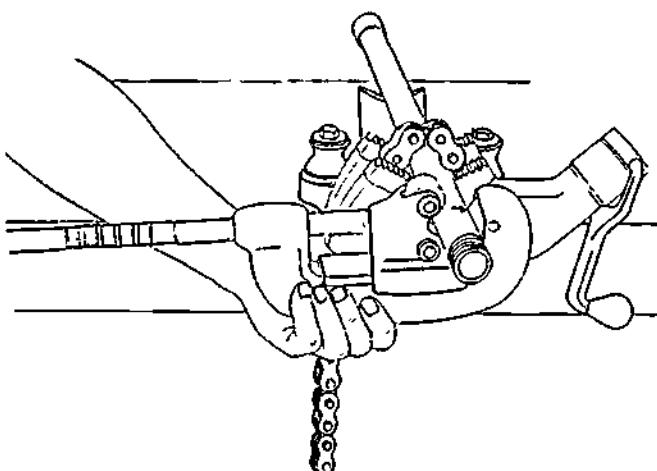

Figure 7-24. Positioning the Pipe Cutter
e) Figure 7-24 shows the pipe cutter being positioned on the cutting mark.